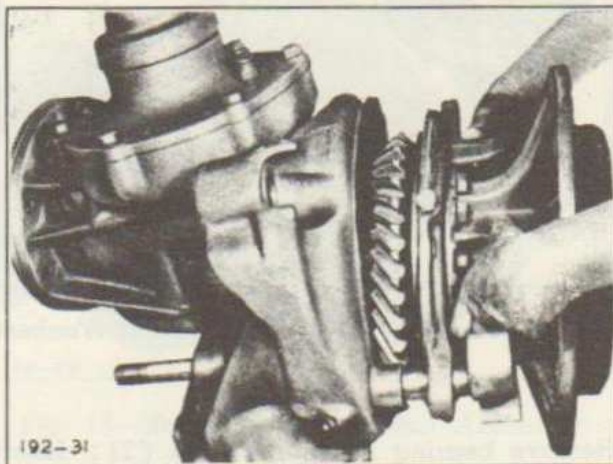

Fig. 24—Removing Wheel Hub Assembly
Remove cover (38) and gasket (78). Remove capscrews (43), lock screw (39) and clamp bolt (40) in that order with wrench, Mack Part No. 17-AK-27, adjusting nut (41) and washer (42). Grip large flange and pull out hub assembly with gear off spindle and, at the same time, housing cover (44), oil seal (45) and brake cam (68), together with hub. (See Figure 24). This operation will remove cone of bearing (46). Detach gasket (79).